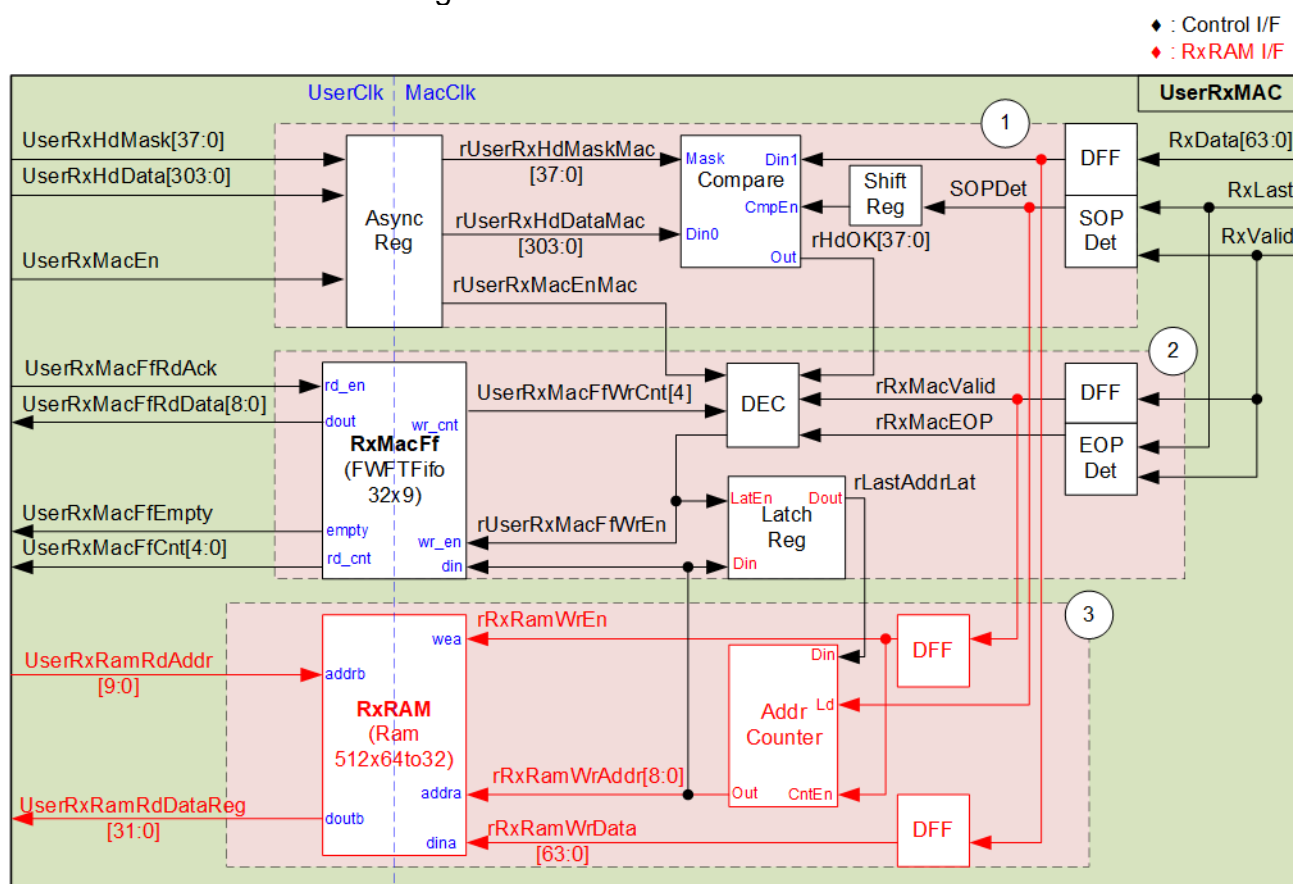

Figure 2-12 UserRxMAC Logic Diagram
UserRxMAC has three operations to validate the received packet and store the valid packet to RxRAM which is 512 x 64-bit to 32-bit Asynchronous dual port RAM. Therefore, the logic inside UserRxMAC can be divided to three groups. First is the logic to verify 38-byte header (byte#0 – byte#37) of each received packet. The expected value and mask bit to enable data comparison are set by user. Only the packet that includes the correct header can be bypassed. Second is the logic to check enable flag from user and free space in RxMacFf. The packet will be rejected if the user disable this module or FIFO has not enough space. RxMacFf is applied to store the end address of RxRAM after finishing storing the received packet. Therefore, CPU determines the received packet size from the end address. Third is the logic to store the received packet to RxRAM. More details about the logic design inside UserRxMAC is shown in Figure 2-12.
As shown in Figure 2-12, Block (1) is the logic to verify 38-byte header of each packet. Block (2) is the logic to store the end address of RxRAM and Block (3) is the logic to store the received packet. The details of UserRxMAC operation when the packet is received are described as follows.